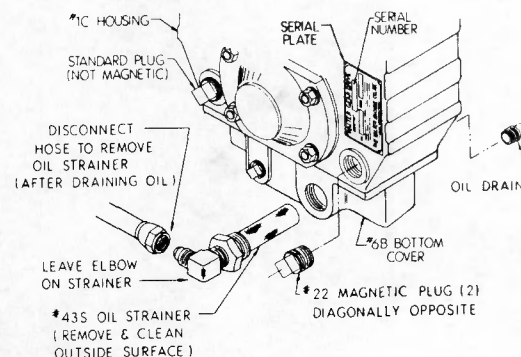

FIG. 11
- Run engine and V-Drive to warm up oil inside the V-Drive. Shut engine off and disconnect battery. Remove the drain plug that is opposite the #43S Oil Strainer on #6B Bottom Cover and drain oil. Reinstall drain plug (SEE FIG. 11).